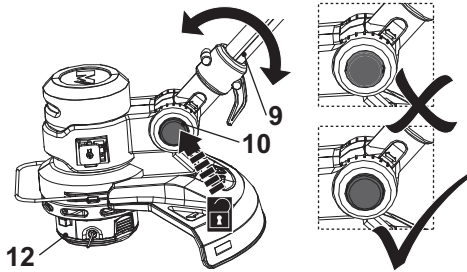

Fig. 11
1. Press the unlock button (10) and hold it in position.
2. Move the lower pole (9) slightly up or downward (Fig. 11).
3. Release the unlock button (10) and keep moving the lower pole (9) until it locks in place.